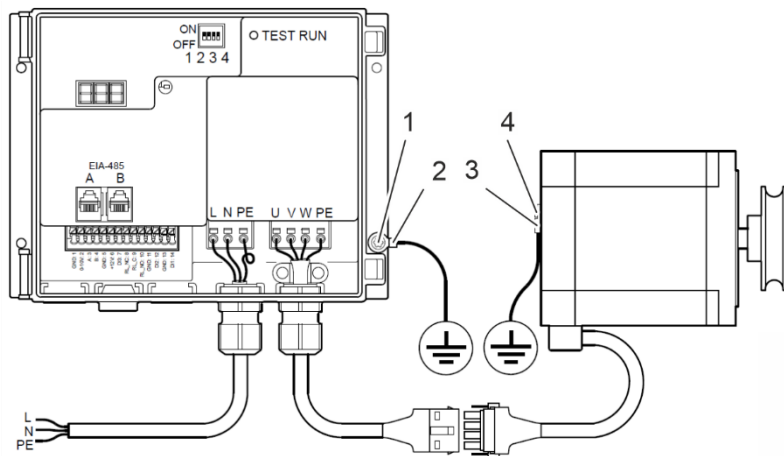

Fig. 101: Equipotential bonding
19. Fasten the potential equalization of the rotor cleaner drive with a ring cable lug (Fig. 101/2) to the housing of the rotor cleaner drive. To do this, use one of the holes (Fig. 101/1) that are used to attach the rotor cleaner drive to the housing of the rotary heat exchanger.
20. Fasten the potential equalization of the stepper motor with a ring cable lug (Fig. 101/4) to the stepper motor. To do this, use the M3 hole (Fig. 101/3) on the backside of the stepper motor.